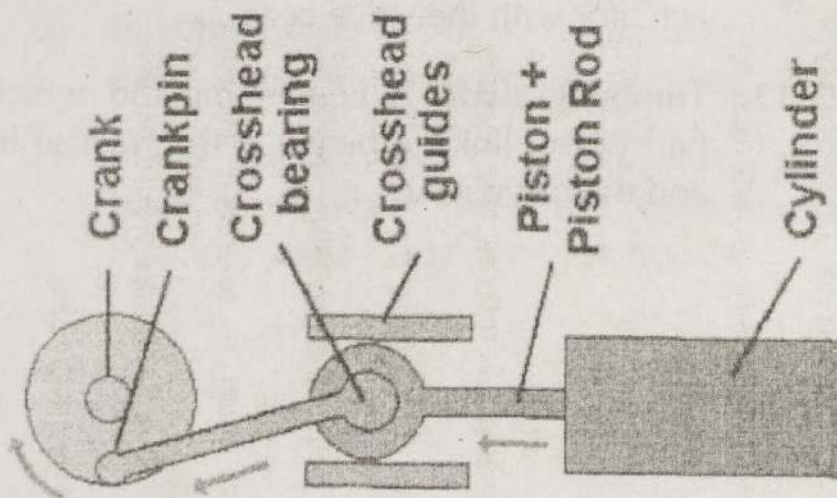

Fig. 37 - What is cross head about
6. **Cross head -** A sliding bearing which guides and supports the end of the piston rod and provides a connection of the rod to the main rod. (small end) (Fig. 37)